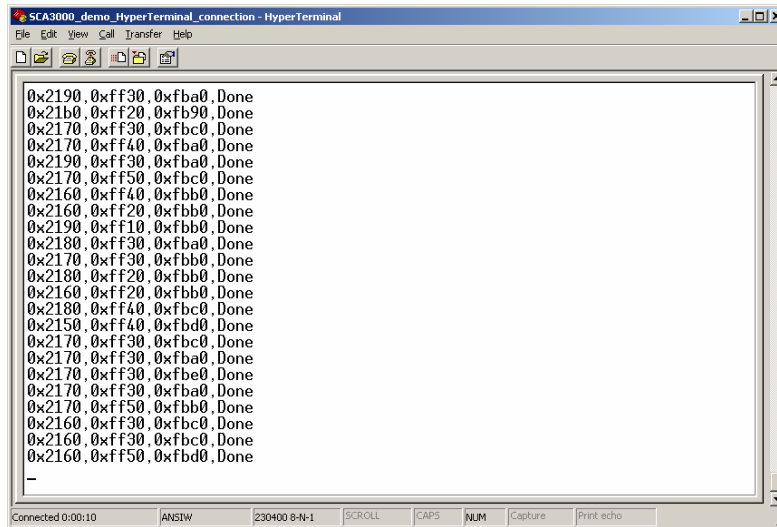

Figure 13 SCA3000 demo output during data logging.
5. The text file is actually a macro that runs in endless loop. The macro sends 3-axis acceleration data in hex format to HyperTerminal (see Figure 13). Example of data format: